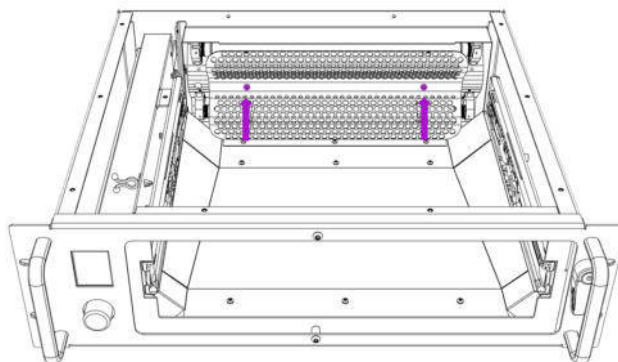

Fig. 19
2. Re-attach UV-C lamp protection panel and re-fit the screws (Fig. 19).